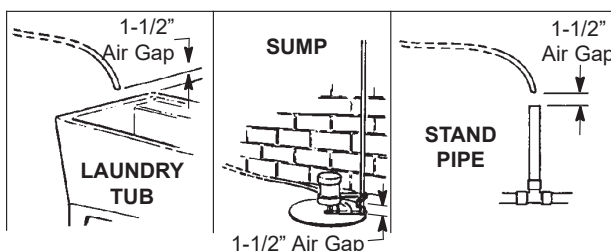

FIG. 4
- a. Take a length of 5/8" inside diameter garden hose and attach to the valve drain fitting (See Figure 4 on page 6).
- b. Locate the other end of the hose at a suitable drain point (floor drain, sump, laundry tub, etc.). Check and comply with local codes. Refer to Figure 4 on page 6 if codes require a rigid pipe drain run.
- Place bypass valve(s) into "bypass" position. On a single valve, slide the stem inward to BYPASS (See Fig. 4 on page 6). On a 3 valve system, close the inlet and outlet valves, and open the bypass valve (See Fig. 3 on page 6).